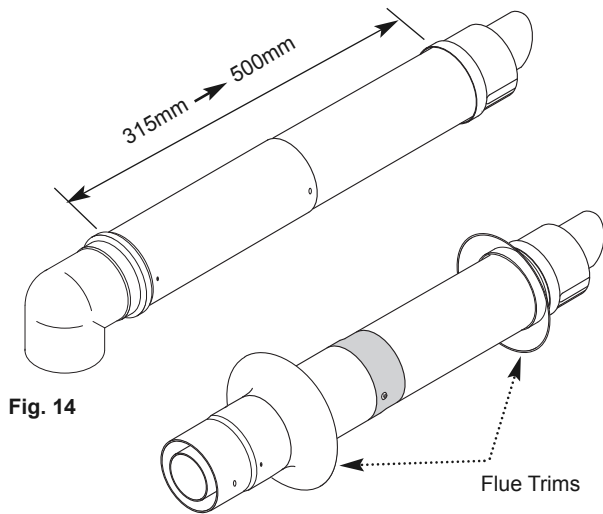

Fig. 14
- 1. The standard telescopic flue is suitable only for horizontal termination applications. It allows for lengths between 315mm and 500mm from elbow to terminal without the need for cutting (Fig. 14). Extensions of 250mm, 500mm & 1m are available.
1. The flexible flue trims supplied can be fitted on the outer and inner faces of the wall of installation (Fig. 14).